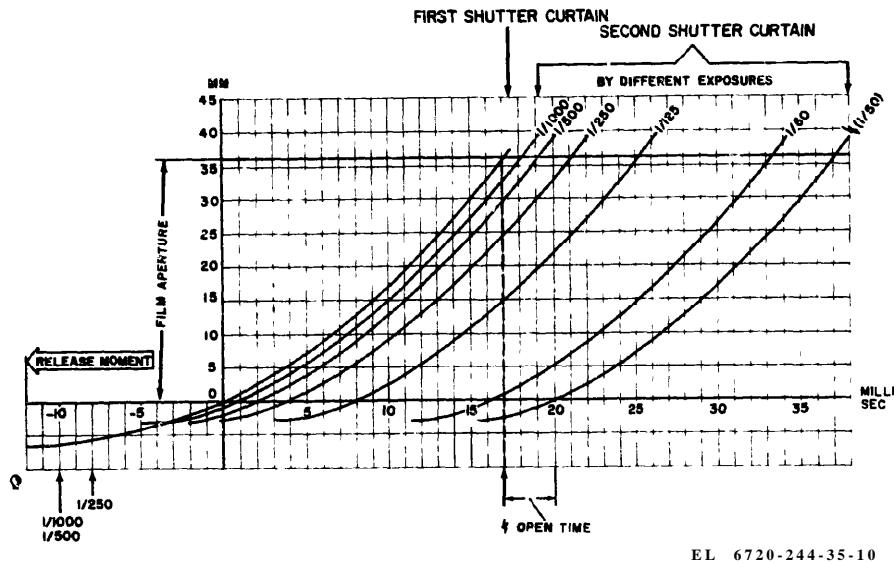

Figure 1-10. Shutter functioning, graph.
*f. Shutter Functioning (fig. 1-10).* When the shutter is wound, both curtains lie approximately